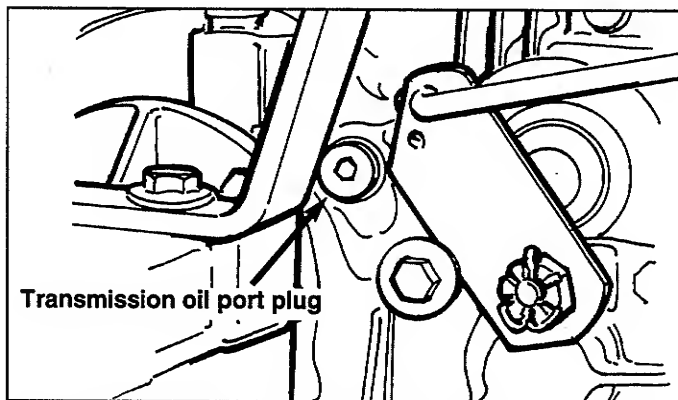

Figure 26A. Transmission Oil Port Plug
Transmission fluid should be checked with the engine off. Remove plug (figure 26A). Fluid level should be to the bottom of the hole. If fluid level is low, add fluid (10W 40 oil) to the fill tube (figure 26B) until proper level is reached, then reinstall drain plug.
2. Remove oil port plug (figure 26A).
3. Add 10W 40 oil (76 oz.) to the transmission fluid fill tube (figure 26B) until oil just starts to run out of the oil port (figure 26A). Reinstall oil port plug.